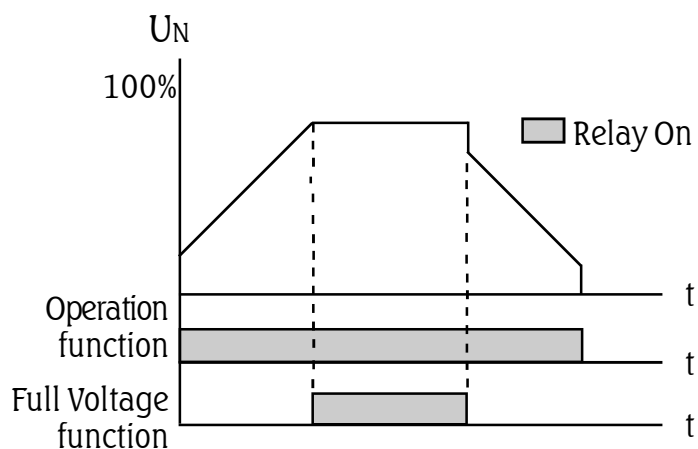

Figure 6.7 - Functioning of the relays RL1 and RL2
- 1 - Function "Operation", the relay is switched ON instantaneously with the order Switch ON of the Soft-Starter, switching Off only when the Soft-Starter receives an order of general switching Off, or by ramp when the voltage reaches 30% of the rated voltage (30% U_N), as shown in Figure 6.7.
- 2 - Full voltage Function, the relay is only switched On after Soft-Starter has reached 100% of U_N , and switched Off when the Soft-Starter receives a command for general switching Off, or by ramp, as shown in Figure 6.7.